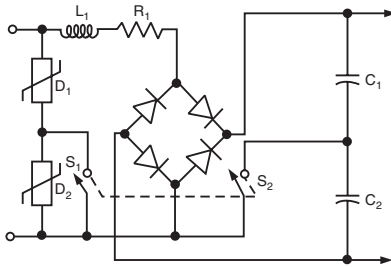

Figure 3. Basic Circuit with MOV Protection
**TABLE 2 - TRANSIENT PERFORMANCE OF THE CIRCUIT OF FIGURE 3**
When transient protection is used in a SMPS, it most often is nothing more than a single MOV across the line as shown in Figure 3. Table 2 shows test results taken in the circuit of Figure 3. Note that the worst transients occur in the 240 V position when both switches are open. However, unless the MOV voltage is adjusted to fit the lower line voltage when used on 120 V ac, (i.e.,  $S_1$  is closed), a very large capacitor current flows. For example, with only 0.5  $\Omega$  impedance the 77 V spike appears across only one capacitor; with 3000 A of input current the spike would increase to 115 V which could exceed the surge voltage rating of the capacitor. The 106 V transient increases to about 150 V when 3000 A is applied, bringing the bus voltage to 550 V.
To improve the transient suppression, the capacitor and/or the series impedance must be larger. The data in Table 2 taken with higher series impedances shows some improvement in lowering the transient levels, but the transients are still higher than desired. For very low power supplies, the circuit of Figure 3 would be satisfactory, if an appropriate series impedance and capacitor were chosen.